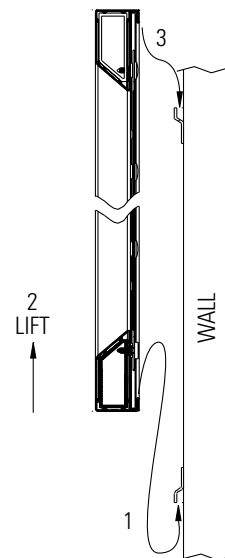

FIGURE 4
3. Attach the lower wall bracket to the wall. Refer to figure 4 for proper orientation. Do not tighten the screws completely. The bracket should slide up and down easily.
5. Hang the screen on the brackets by hooking the bottom of the frame onto the lower wall bracket and lift up until you can hook the top of the frame on the top bracket. Push down on the frame to seat it on the brackets. Refer to figure 4.